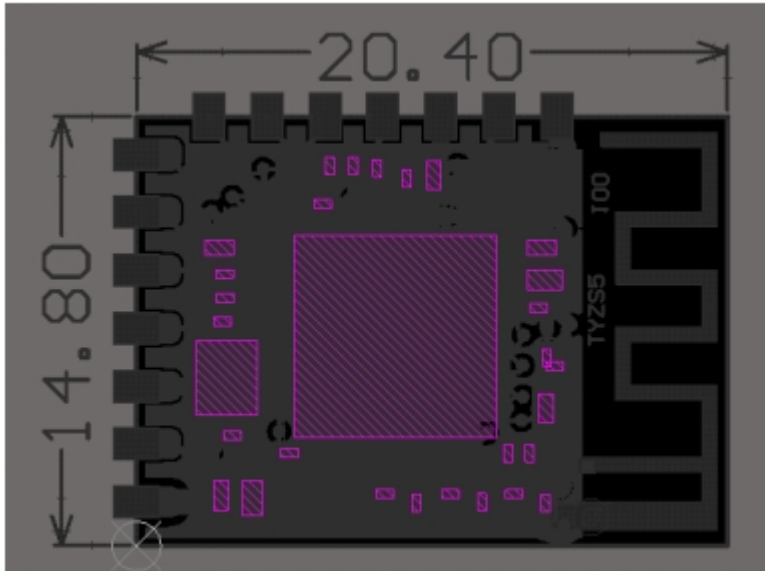

Figure1. TYZS5dimensional drawing
TYZS5 dimensions: 14.8mm (W) x 20.4mm (L) x 2.0mm (H),TYZS5 dimensions are as shown in Figure 1: